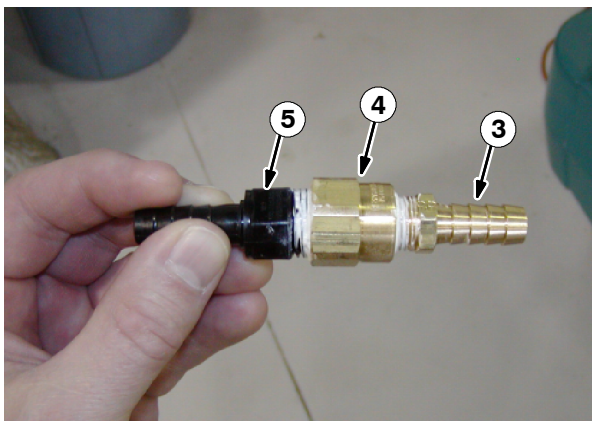

FIG. 21
48. Thread the brass straight fitting (3) and the plastic straight fitting (5) into the brass reducer fitting (4). Be sure the gasket and orifice plate inside the reducer fitting inside the reducer when assembling these items. Refer to Fig. 21.